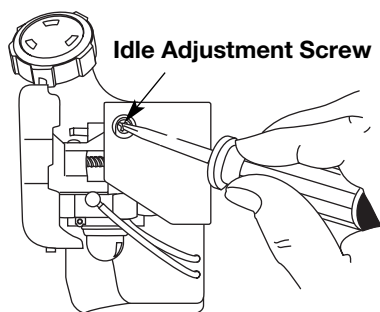

Fig. 38
The idle speed of the engine is adjustable. An idle adjustment screw is reached through a hole in the top of the engine cover (Fig. 38).
2. Release the throttle trigger and let the engine idle. If the engine stops, insert a small phillips into the hole in the air filter/muffler cover (Fig. 38). Turn the idle speed screw in, **clockwise**, 1/8 of a turn at a time (as needed) until the engine idles smoothly.